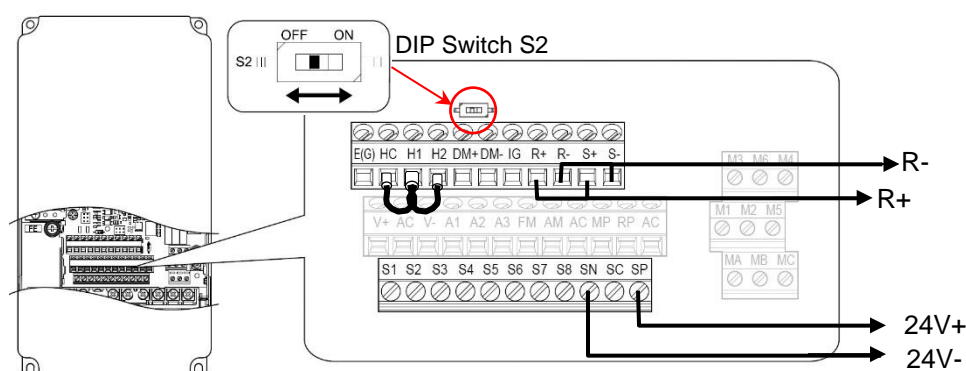

Figure 15: Wiring of L1000H (CIMR-LC4F## type) to the Pro-Hydro card
Set DIP switch S2 to the **ON** position to enable the termination resistor in the drive when you use MEMOBUS/Modbus communications (DIP switch S2 is located just above the connection terminals as shown in Figure 15).
- 2- Do following connections between **L1000H** YASKAWA drive and the **Pro-Hydro** card, see Figure 15.